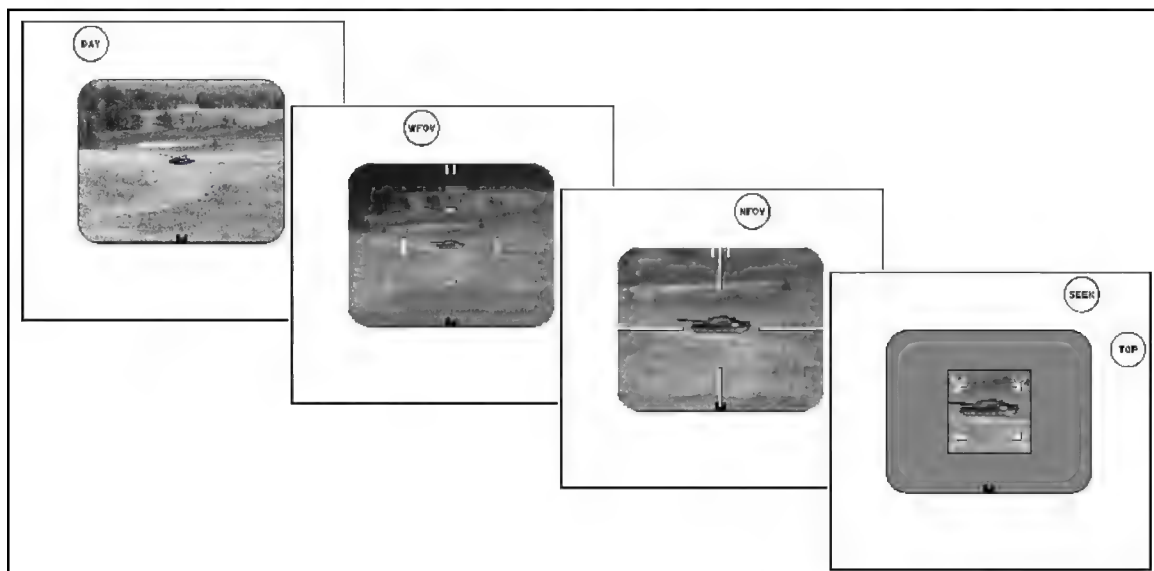

Figure E-36. Target engagement FOV sequence.
a. **Field-of-View Sequence.** As the gunner detects, classifies, and recognizes a target, then, determines its engageability, he must change the FOV, as the task requires. The FOV sequence is day FOV, WFOV, NFOV, and seeker FOV (Figure E-36).